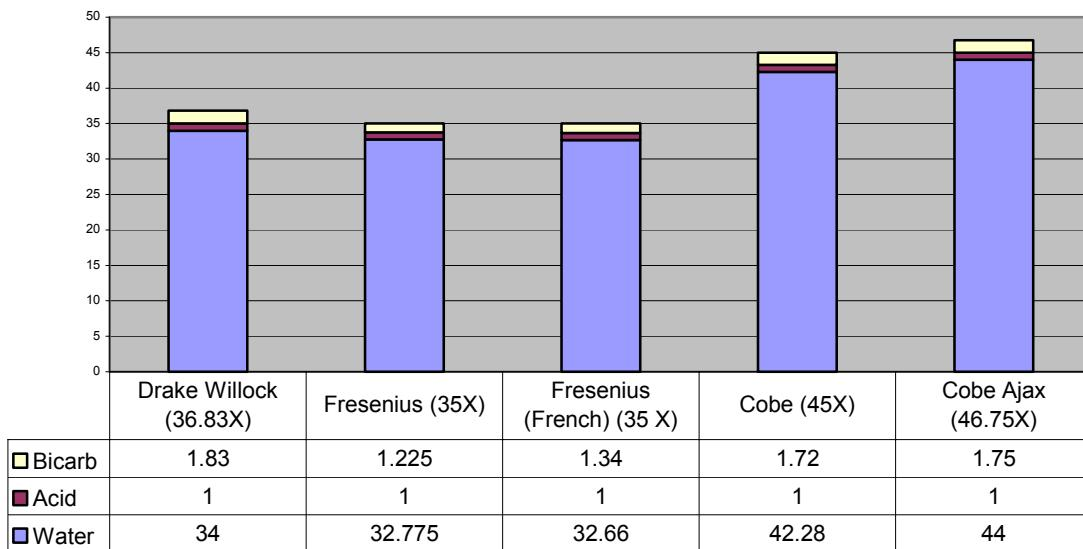

Figure 7-1. Acid/Bicarbonate Concentrate Formulations
- Bicarbonate dialysate proportioning (also known as bicarb). The Instrument may also be set by a qualified service technician to accept a bicarbonate dialysate concentrate from any of five mixing ratios as shown in Figure 7-1. Only one can be chosen at any one time. The Drake Willock proportioning is selected by default, requiring 34 parts water to 1 part acid concentrate to 1.83 parts of bicarbonate concentrate, containing sodium chloride (NaCl) and sodium bicarbonate (NaCHO₃) in the bicarbonate concentrate.
- The Drake Willock proportioning ratio is not compatible with the powder option. (See Section 24, Powder Bicarbonate.) One of the alternate proportioning ratios listed in Figure 7.1 must be used for powder bicarbonate dialysis